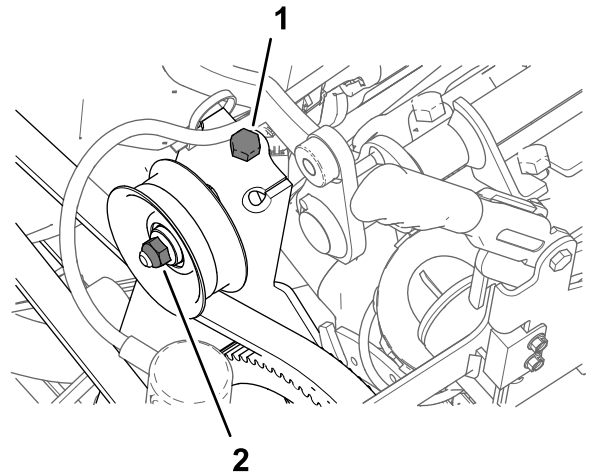

Figure 224
1. Loosen the nut for the idler-pulley shaft (Figure 224).
2. Rotate the belt-tension bolt to remove all tension from the sprayer-pump belt (Figure 224).